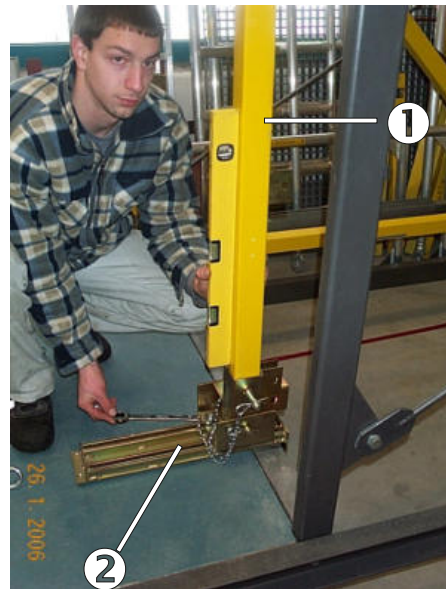
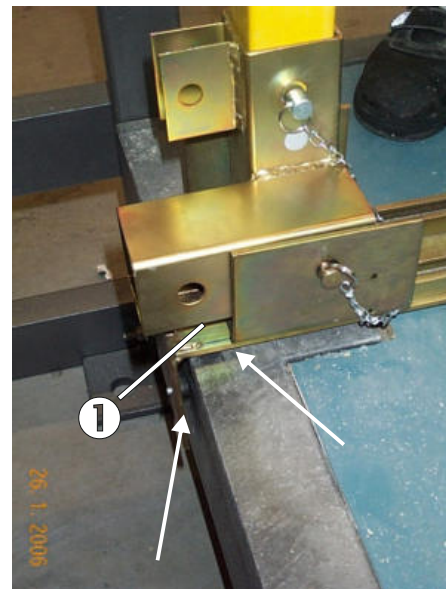

Fig. 3: Front vertical triangle side, placed into assembled threshold joint
Fig. 4: Threshold bracket placed on the threshold
Place the front right vertical triangle side (fig. 3/pos. 1) incl. threshold bracket (fig. 3/pos. 2) on the threshold of the lift shaft (fig. 4/pos. 1) and move the front piece that should protrude above the lintel (fig. 5/pos. 1) into a vertical position by moving the threshold joint. Bolt into place.
The surface of the threshold bracket must lie flat to the threshold (fig. 4/pos. 1).